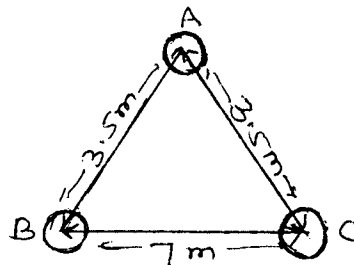

Fig Q6 (b)
- b. A 3 phase 50Hz transmission line is arranged as follows Fig Q6(b). The conductor diameter is 1.2cm. The voltage of the line is 110kV. Find the capacitance to neutral and charging current per km. (06 Marks)